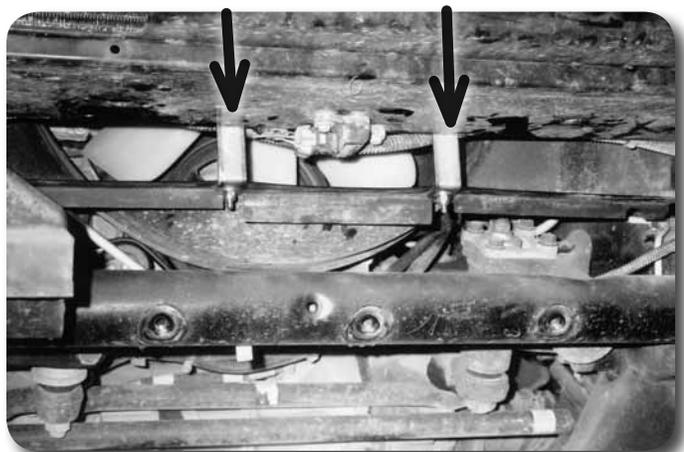

Figure 21
40. Using "L" brackets as templates, mark and drill two 5/16" holes in the fan shroud. Mount fan shroud to the brackets with 1/4" x 1" bolts, nuts and 1/4" USS washers Figure 21.